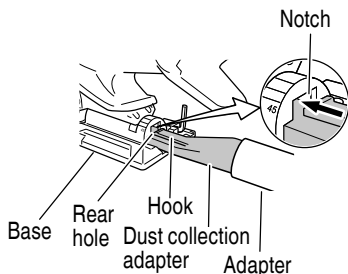

Fig. 36
- (6) Insert dust collection adapter into the rear hole of the base until the hook catches in the notch. (Fig. 36)
- (7) Press the hook to remove the dust collection adapter.